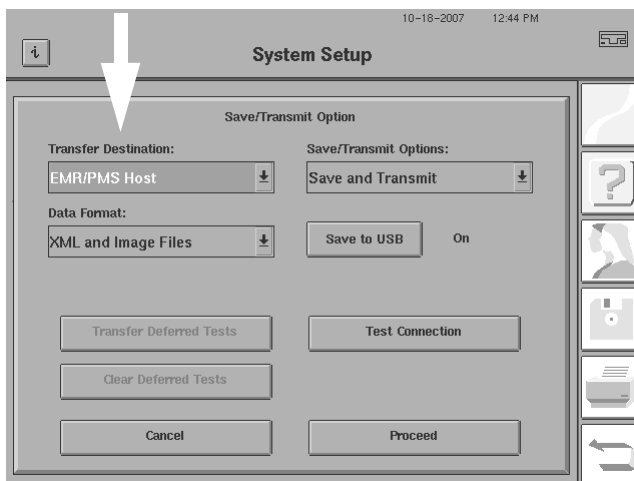
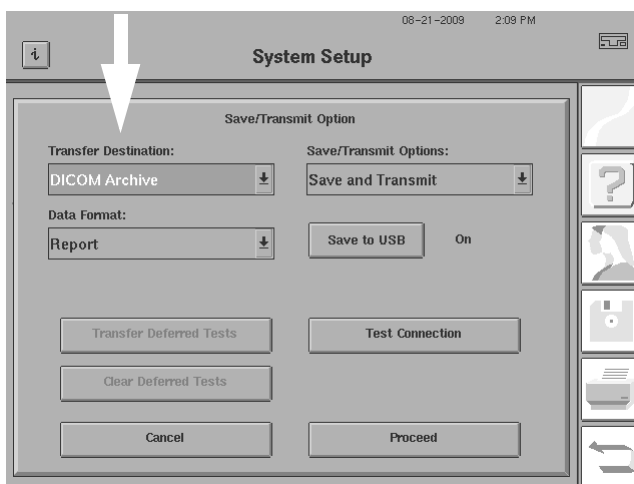

Figure 14.46 Setting Transfer Destination Drop-Down Box to EMR/PMS Host
Figure 14.47 Setting Transfer Destination Drop-Down Box to DICOM Archive
- 1 From the Main Menu, select *SYSTEM SETUP>SAVE/TRANSMIT OPTION* to display the screen that is shown in Figure 14.46.
- 2 Open the Transfer Destination drop-down box and select EMR/PMS HOST for EMR/PMS systems and DICOM systems using DICOM Gateway 1.0 (Figure 14.46), or DICOM ARCHIVE for DICOM systems using DICOM Gateway 2.0 (Figure 14.47).